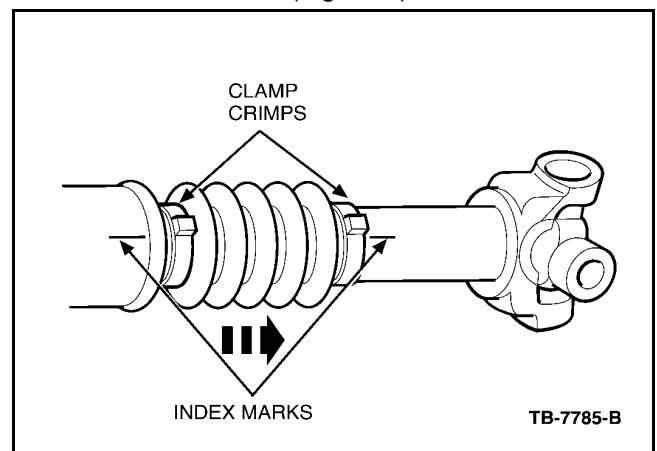

Figure 1 - Article 04-23-7
2. Mark the driveshaft and slip yoke on both sides of the boot. Mark the location of the clamp crimps so the new clamps can be installed in the same location (Figure 1).